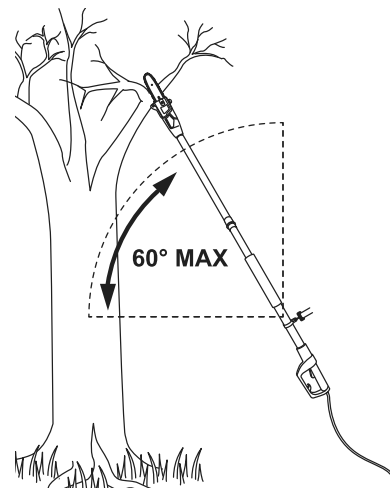

Figure 13
3. Hold the Pole Saw at a max. angle of 60° from the horizontal level. See Figure 13, right.